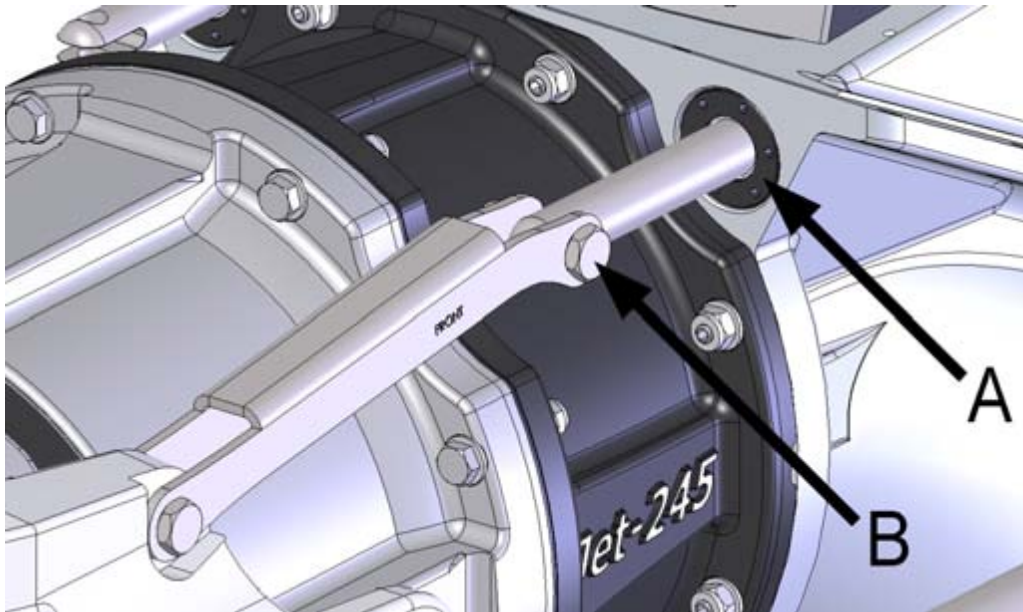

Figure 57. Cylinder rear end seal
The cylinder rear end seal (figure 57, point A) is a wearing part and must be replaced regularly. The replacement can be performed with the cylinder in place.
1. Open the cylinder's connecting rod screw if the cylinder is closed (figure 57, point B)
4. Attach the cylinder's connecting rod screw if the cylinder is installed in place (figure 57, point B)